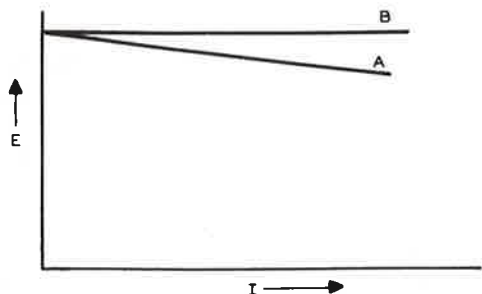
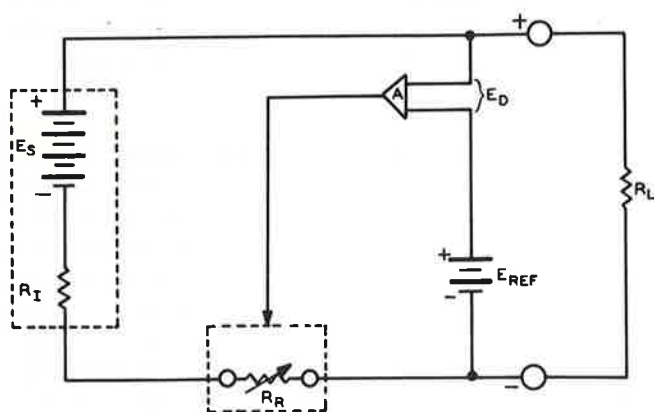

Figure 6
Figure 7
In Figure 6, line A represents the output of a typical power supply. As the current (I) increases, the voltage (E) decreases. Line B represents a regulated Power Supply where the voltage remains constant with increasing current. Figure 7 shows a basic voltage regulated power supply, where E_s is a DC voltage source, and R_I is the internal resistance of the voltage source. E_{REF} is an independent reference voltage source of the same voltage as desired from the output. When a load, R_L , is applied to the output terminals, current flows. This current flow causes a voltage drop across R_I and R_R , with an attendant voltage drop between the (+) and (-) output terminals.